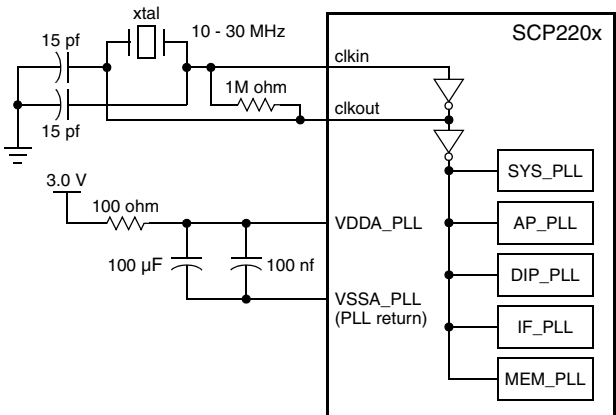

Figure 4. Crystal Connected to SCP220x
* See <a href="#">Figure 4</a> for VSSA_PLL connectivity